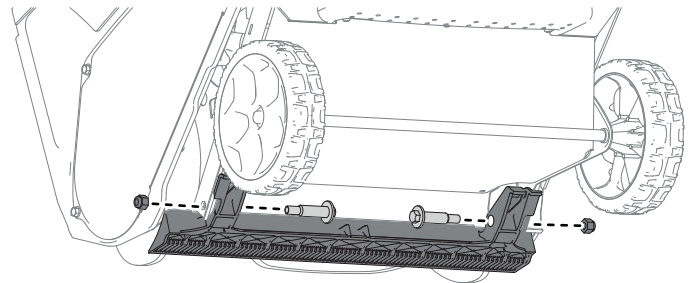

Figure 2
5. Secure the new scraper to the machine using the retained 2 shoulder bolts and 2 locknuts (Figure 2).